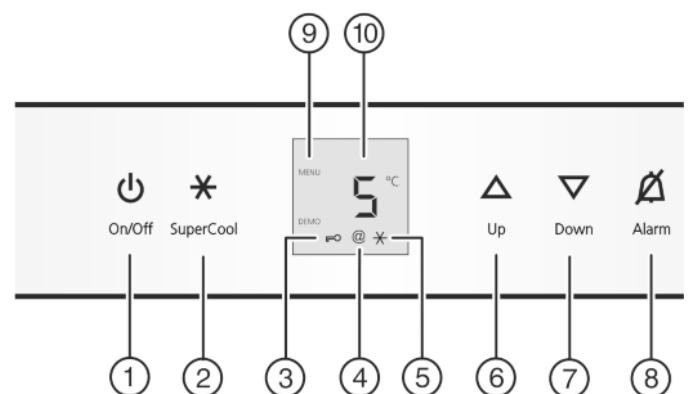

Fig. 2
- ▶ Press On/Off button *Fig. 2 (1)*.
- The SmartDevice box symbol *Fig. 2 (4)* is displayed and flashes -> The SDB is not connected.
- The SmartDevice box symbol *Fig. 2 (4)* is displayed and doesn't flash -> The SDB is connected.
- The SmartDevice box symbol *Fig. 2 (4)* is not displayed -> The SDB is not active, was not inserted correctly or the SDB connector was not installed correctly.
- ▶ Activate setting mode: Press the SuperCool button *Fig. 2 (2)* for around 5 seconds.
- ▷ The Menu symbol *Fig. 2 (9)* lights up.
- ▶ Choose with 'Up' button *Fig. 2 (6)* and 'Down' button *Fig. 2 (7)* **2**.
- ▶ Briefly press SuperCool button *Fig. 2 (2)* to confirm.
- ▶ Choose with 'Up' button *Fig. 2 (6)* and 'Down' button *Fig. 2 (7)* **20**.
- ▶ Choose with 'Up' button *Fig. 2 (6)* and 'Down' button *Fig. 2 (7)* **21**.
- ▶ Choose with 'Up' button *Fig. 2 (6)* and 'Down' button *Fig. 2 (7)* **2d**.
- ▶ Choose with 'Up' button *Fig. 2 (6)* and 'Down' button *Fig. 2 (7)* **2H**.
- ▶ Choose with 'Up' button *Fig. 2 (6)* and 'Down' button *Fig. 2 (7)* **2L**.
- ▶ Deactivate setting mode: Press the On/Off button *Fig. 2 (1)*.
- ▶ Briefly press the SuperCool button *Fig. 2 (2)* to confirm. When **cl** is indicated in the display:
- ▶ to activate the child lock, briefly press the SuperCool button *Fig. 2 (2)*.
- ▷ The child lock symbol *Fig. 2 (3)* shines. **c** flashes in the display. When **cl** is indicated in the display:
- ▶ to deactivate the child lock, briefly press the SuperCool button *Fig. 2 (2)*.
- ▷ The child lock symbol *Fig. 2 (3)* goes out. **c** flashes in the display.
- ▶ To deactivate the set-up mode: press On/Off button *Fig. 2 (1)*.